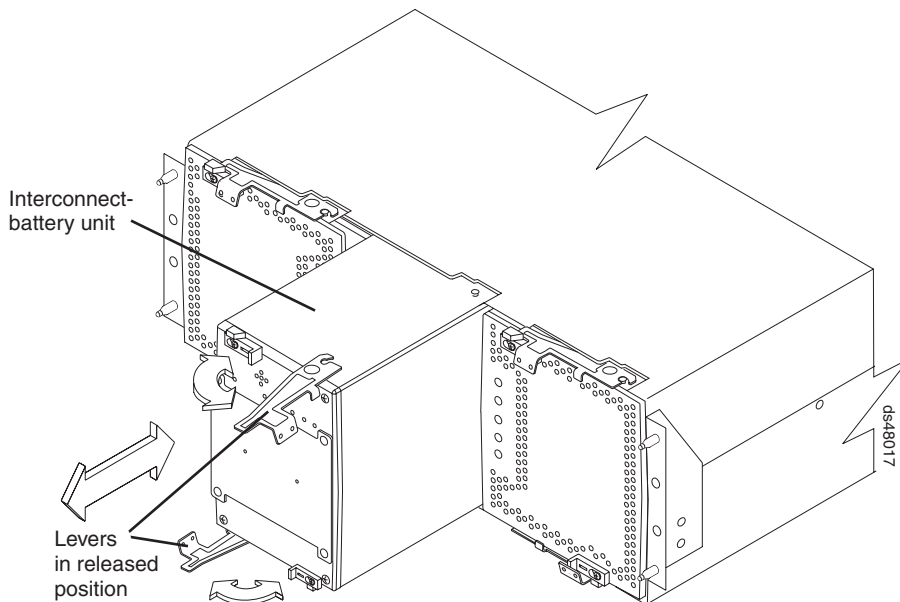

Figure 22. Replacing the interconnect-battery unit
2. Replace the interconnect-battery unit. Figure 22 shows the location of the interconnect-battery unit and the interconnect-battery unit levers. The interconnect-battery unit is keyed to always fit into the enclosure in the proper orientation. A large pin located on the back of the component prevents the component from being installed incorrectly. Before installing the component, turn the component so that the LEDs are near the top of the component.